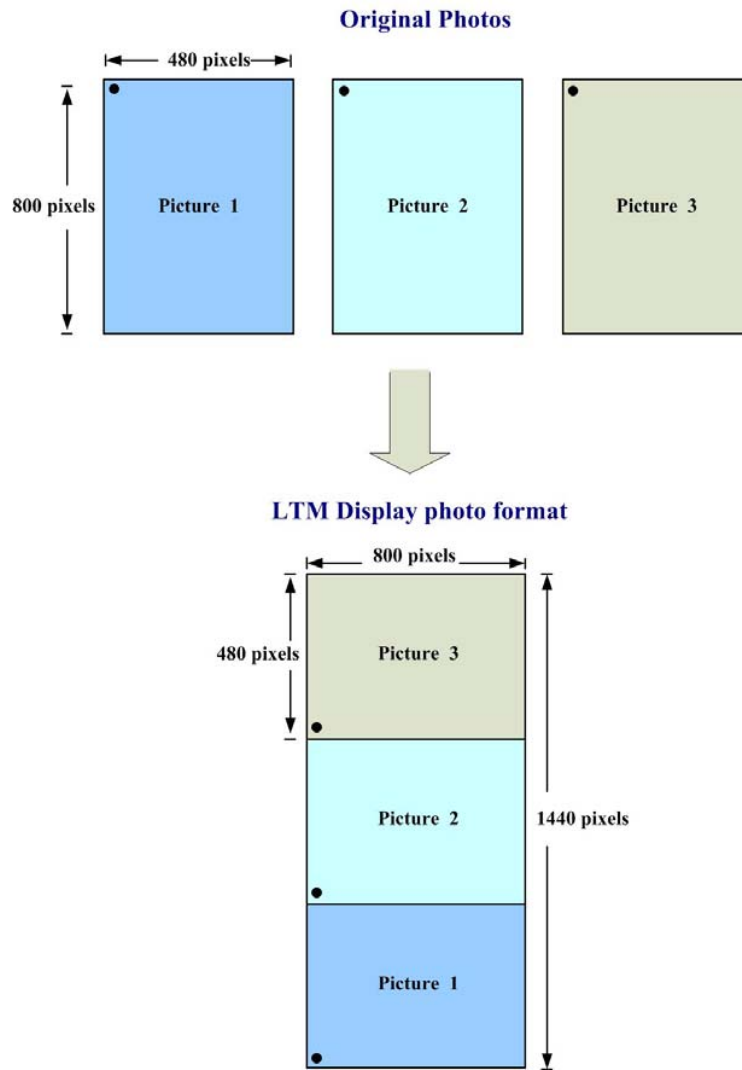

Figure 4.10 The photo format of the DE2\_LTM\_Ephoto/ DE1\_LTM\_Ephoto demonstration
2. Use the image processing software (such as Photoshop or Photoimpact) to rotate the images counterclockwise and then merge these photos into a new photo image. The new photo's image resolution should be 1440(high) x 800 (width), as shown in Figure 4.10